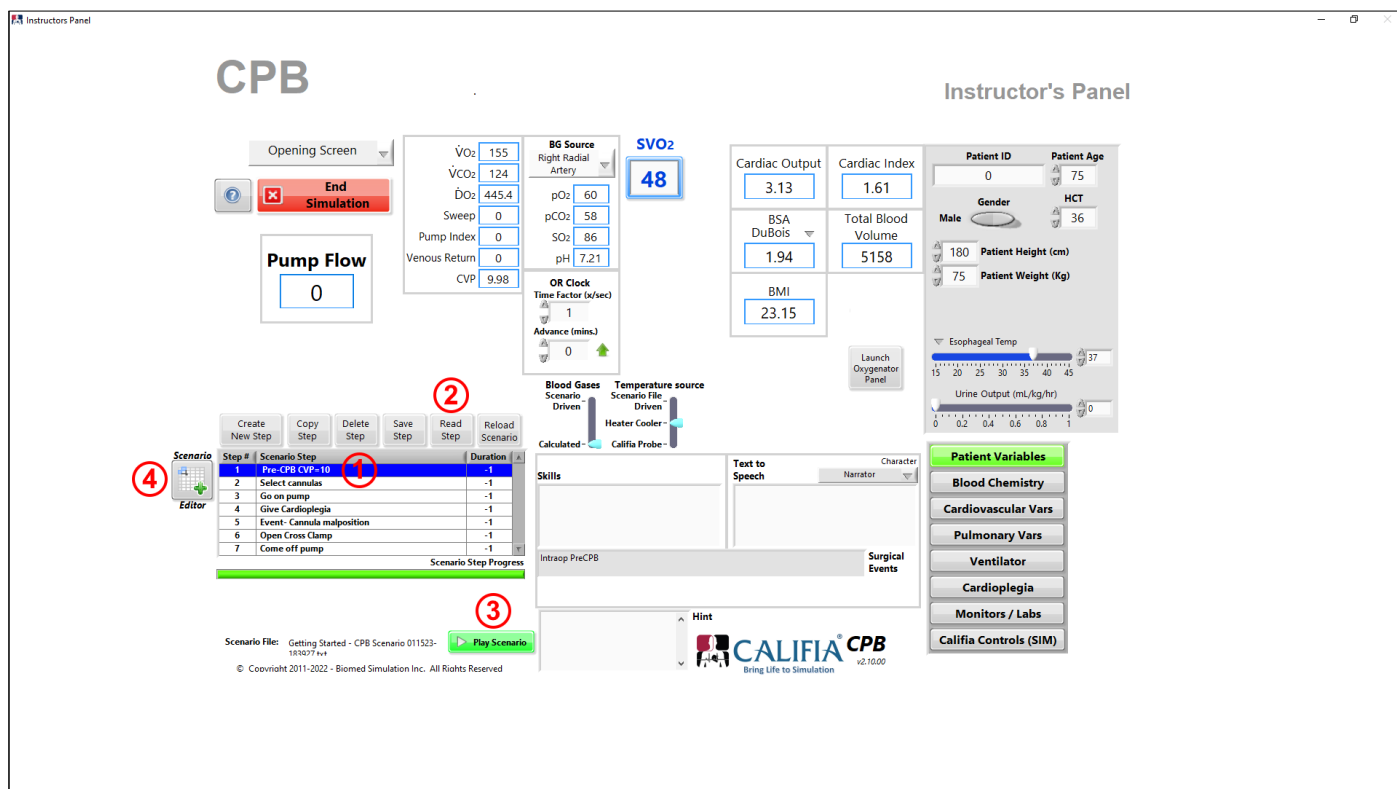

Figure 4.33 Run Scenario File
Follow these steps, refer to Figure 4.33,
Press **Scenario Editor** button, ④, refer to Figure 4.33.